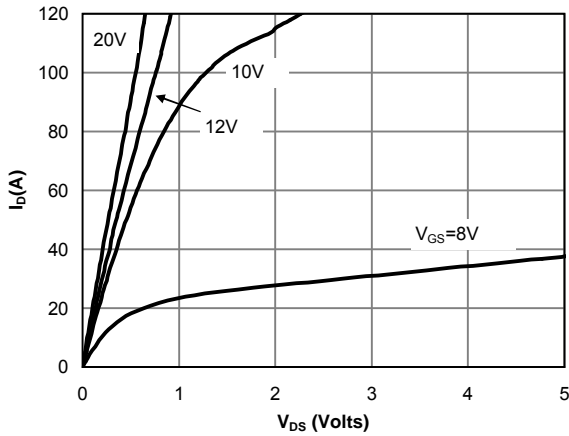

Figure 1: On-Region Characteristics
E. The static characteristics in Figures 1 to 6 are obtained using $<300\mu\text{s}$ pulses, duty cycle 0.5% max.